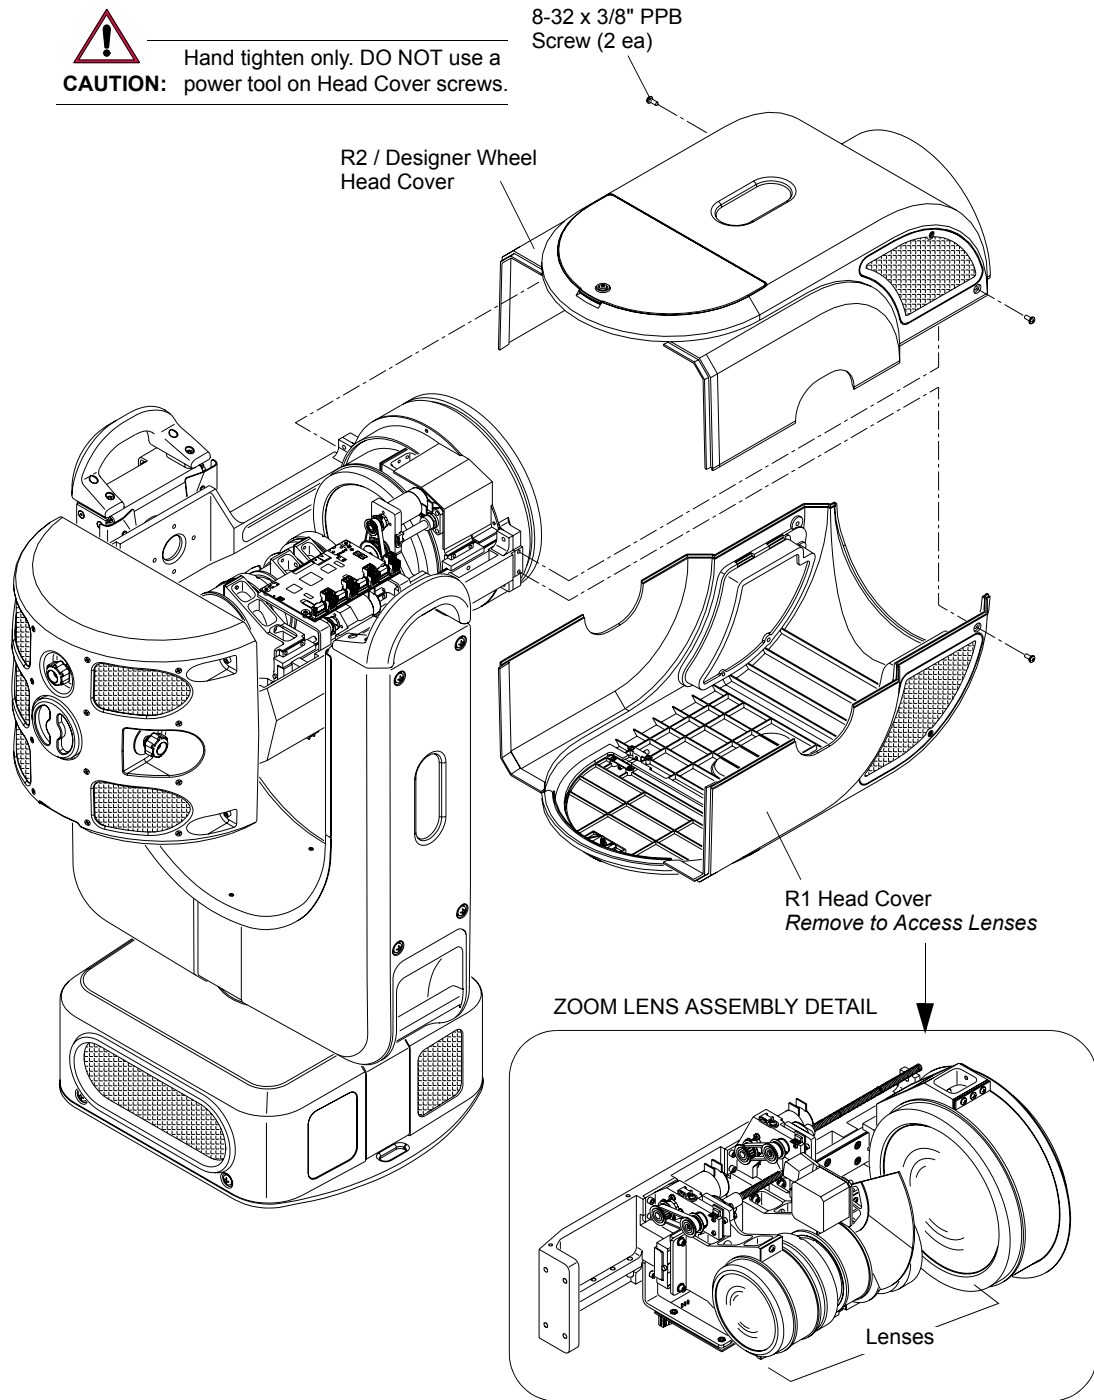

Figure 4-7: Accessing Zoom Lens Assembly
- Step 2. Remove R1-side head cover to access Zoom Lens Assembly (head cover doors have a label to identify them). See Figure 4-7 on page 67.